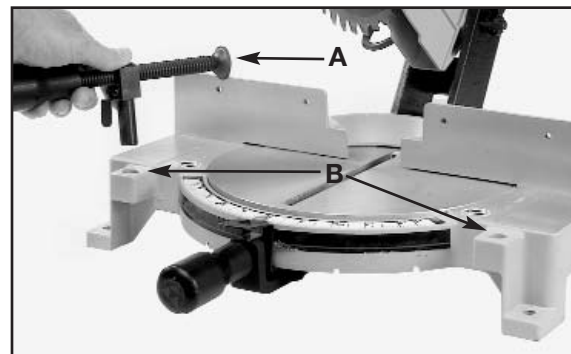

Fig. 9
1. An optional work clamp (A) Fig. 9 is available. Use this accessory clamp, especially with short workpieces. Never allow your hands to be in the "Hazard Zone".